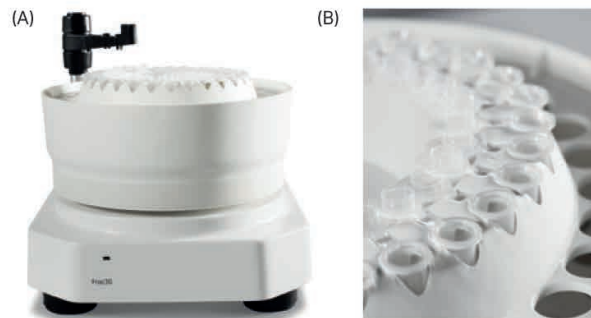

Fig 4. Frac30 fraction collector with collection tubes. A) Frac30 fraction collector. B) Fraction collector showing placement of the microcentrifuge tubes.
- 6 Prepare Frac30 fraction collector (Fig. 4, on page 2).
- a. Fill the inner row of holders with 1.5 mL microcentrifuge tubes (Fig. 4, on page 2).